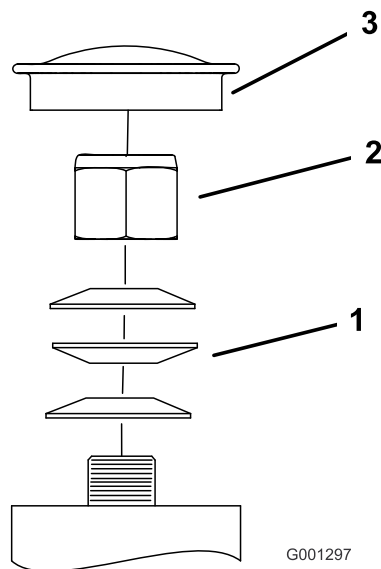

Figure 77
3. Remove the dust cap from caster and tighten the locknut (Figure 77).
4. Tighten the locknut until the spring washers are flat, and then back off a 1/4 turn to properly set the preload on the bearings (Figure 77).
Important: Make sure that the spring washers are installed correctly as shown in Figure 77.
5. Install the dust cap (Figure 77).